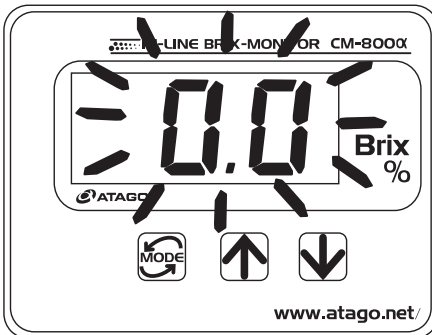

Fig.14-2 Example: When the lower limit value of the recorder output range is set to Brix 0.0%.
- 4 Press the  key. The current lower limit value will blink on the display (Fig.14-2).
- 5 Adjust the displayed value to the desired lower limit value by using the  and/or  keys (Fig.14-2).